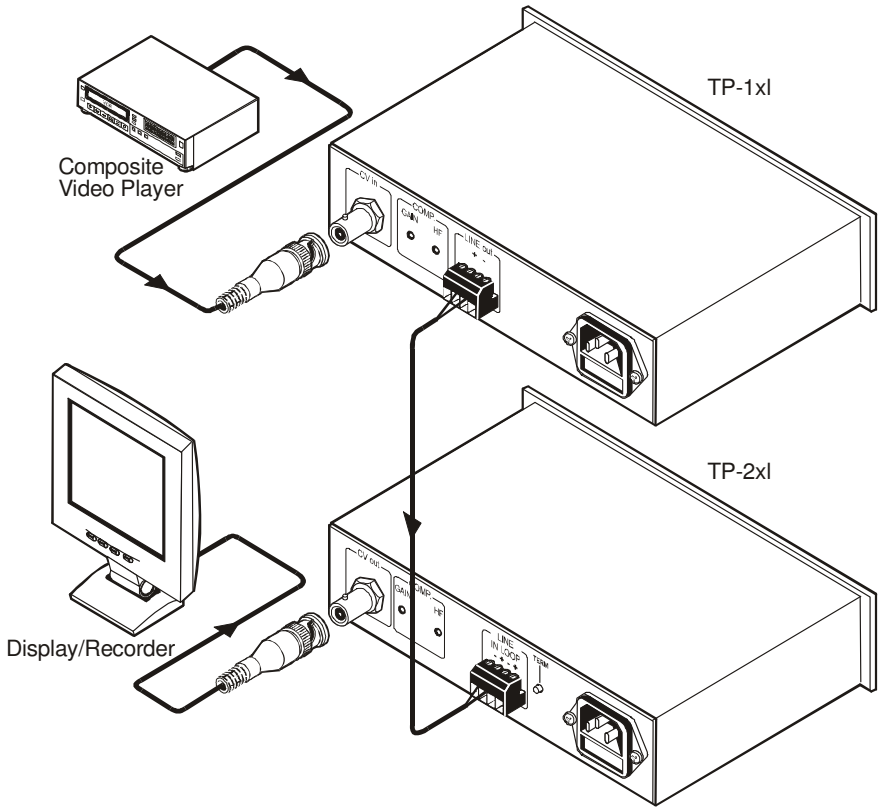

Figure 3: Connecting the TP-1xl/TP-2xl Video Line Transmitter / Receiver System
To connect the **TP-1xl Video Line Transmitter** with the **TP-2xl Video Line Receiver**, as illustrated in the example in Figure 3, do the following:
5. Connect the power cord on the **TP-1xl** and the **TP-2xl** (not illustrated in Figure 3).